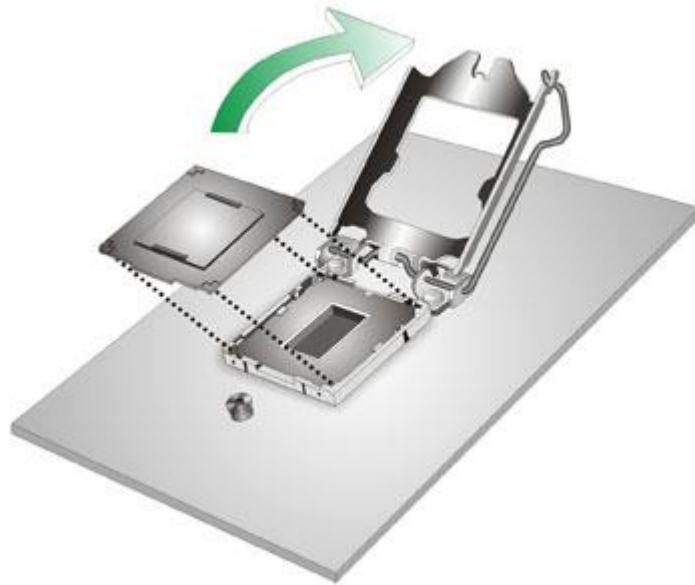

Figure 4-4: Remove Protective Cover
Step 2: Open the socket and remove the protective cover. The black protective cover can be removed by pulling up on the tab labeled "Remove". See Figure 4-4.